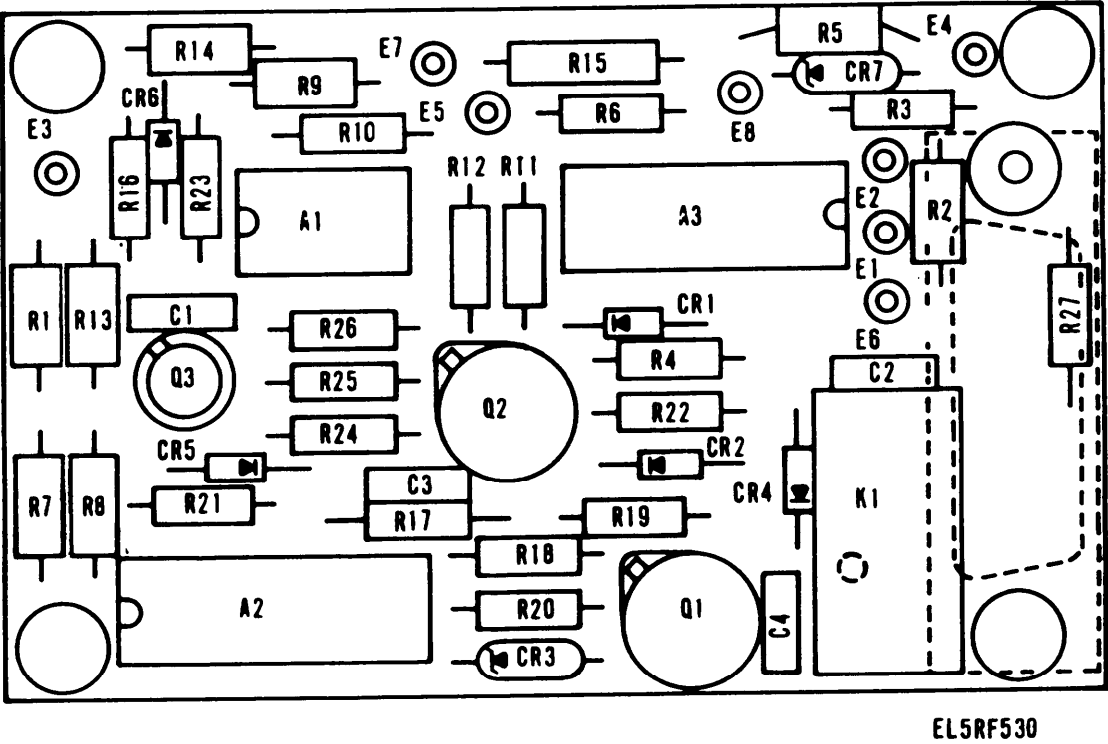
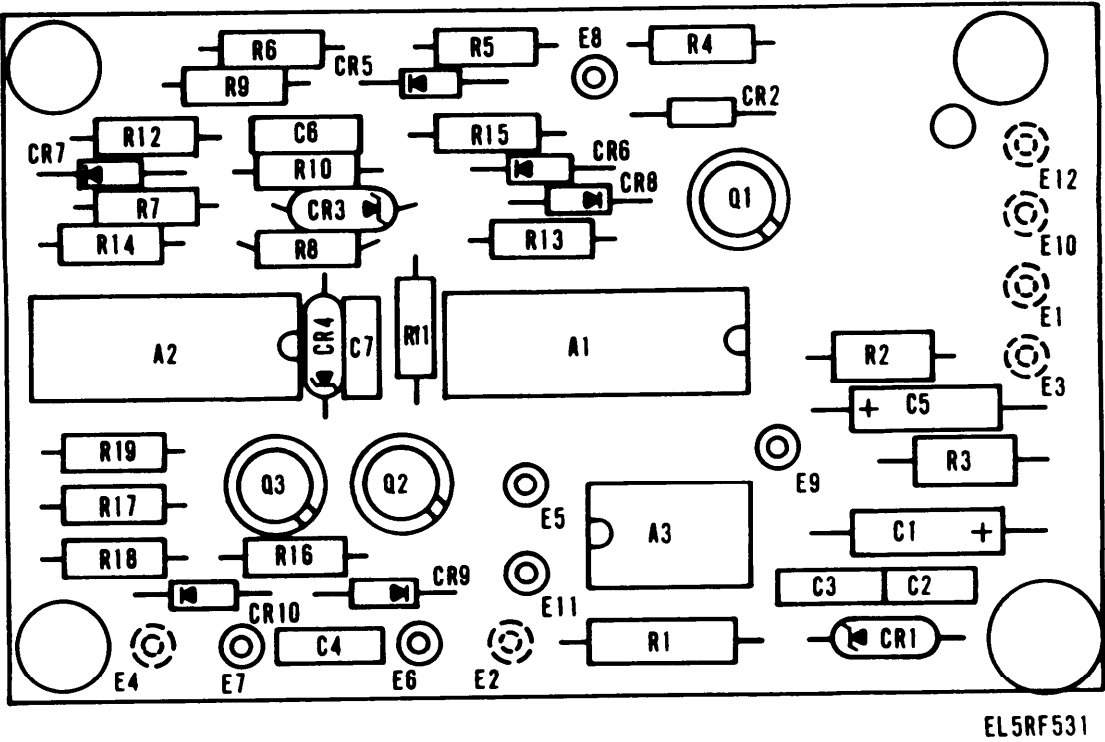

Figure 3-130. Control Monitor Temperature Sensor, 5A2A2A1, Parts Location.
Figure 3-131. Control Monitor Temperature Sensor, 5A2A2A2, Parts Location.
b. Failure of 6.2 V supply.	b. (1) Check test point E7 of board A1 for 6.2 V at all positions of S33 except OFF (fig. 3-130). (2) Check test point E11 of board A2 for 6.2 V at all positions of S33 except OFF (fig. 3-134). (3) Check CR1 and R1 of board A2 for 6.2 V at all positions of S33 except OFF (fig. 3-131).
c. Failure of 15 V supply.	c. (1) Check 15 V at E1 of board A2 (fig. 3-131). (2) Check 15 V at E5 of board A1 (fig. 3-130). (3) Check A3 of board A2 and associated components (fig. 3-131). (4) Check Q3 (2N 3749) on board A2 (fig. 3-131).
b. Check for approx. 15 Vp-p square wave at pins 8 and 15 of A1 on board A2 (fig. 3-131). c. Check for approx. 15 Vp-p square wave at collector of Q2 and Q3 on board A2 (fig. 3-131). d. Check for approx. 15 Vp-p square wave at E2 and E4 of board A3. If present check Q1, Q2, T2 and T3 on board A3 (figs. 3-129 and 3-132).